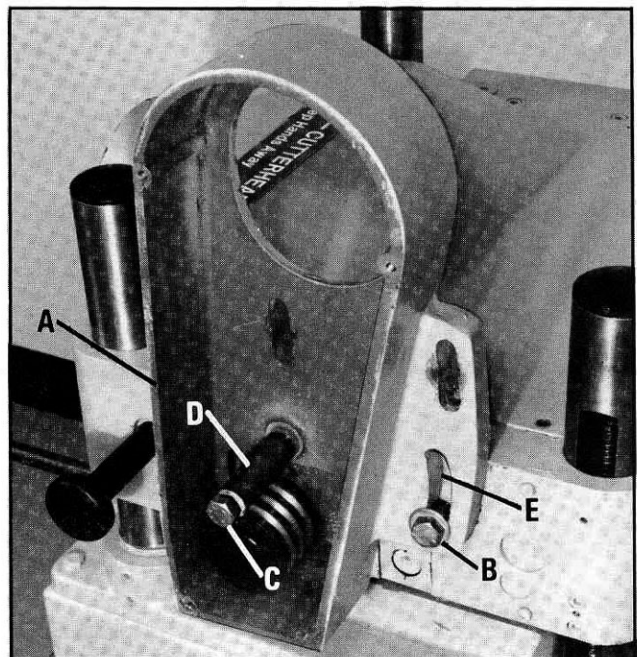

Fig. 11
1. Remove cover from side of belt guard and assemble belt guard (A) to the side of the planer using screw and washer (B) and long screw (C) and spacer (D), as shown in Fig. 11. The belt guard (A) should be as far to the left as it will travel in slot (E) as shown in Fig. 11, for correct operating position.